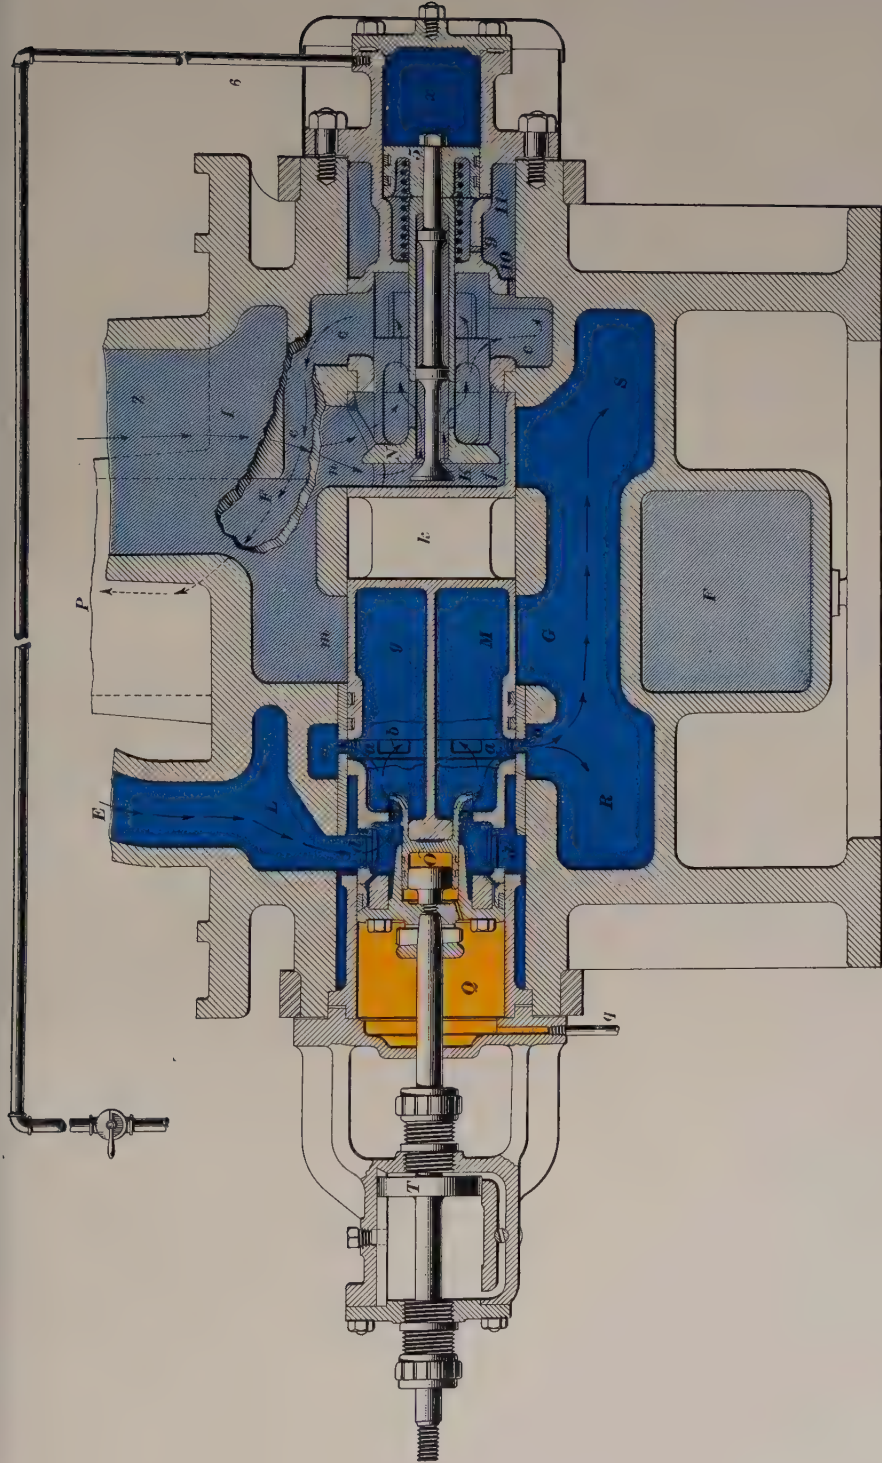

FIG. 24
40. Working Simple.—When the engineer desires to start the locomotive as a simple engine, he first turns the handle of the emergency operating valve to the position marked *simple*, so as to admit pressure into chamber *x*, and then opens the throttle, Fig. 24. The pressure in chamber *x* moves piston 5 and forces open the emergency exhaust valves *K* and *N*, while, by admitting steam into chamber *L*, the intercepting valve is caused to move into the simple position and to close the passages *m* and *n*; hence, the exhaust steam from the high-pressure cylinder passes through the receiver into chamber *I*, and is then obliged to pass through the exhaust valve *N* and the emergency exhaust passage *c*, into the main exhaust passage *F* and the atmosphere, as indicated by the arrows. The walls of chamber *I* are broken away to show how the passage *c* leads into the main exhaust passage *F*. The low-pressure cylinder is supplied with live steam at a reduced pressure through the reducing valve, as indicated by the arrows.
42. Changing From Simple to Compound.—To change the engine from simple to compound, the engineer simply moves the handle of the operating valve to the position marked *compound*. This removes the pressure from chamber *x*, Fig. 24, as will be indicated by steam or air exhausting from the exhaust port of the operating valve. In
44. Working Simple.—In starting on a grade or in starting heavy trains, the engine should be worked simple until the train is moving freely. To start an engine simple, move the handle of the operating valve into the position marked *simple*, drop the reverse lever into the corner, open the cylinder cocks, and then open the throttle. In this way, live steam will be worked in both cylinders (see Fig. 24) until the engineer converts the engine to compound. The engine, when worked simple to start a heavy train, will jerk less and will start the train more smoothly. It should be converted to compound, however, just as soon as possible after the train is moving freely. This is accomplished by
Should the steam-supply pipe *6* to the chamber, Fig. 24, become broken, the intercepting valve can be forced into simple position by removing the head of chamber *x* and blocking the emergency exhaust valve open, in the position shown in Fig. 24. If a cross-compound engine, when given steam, will not start with the high-pressure side on the center, the trouble is usually with the reducing and intercepting valves sticking in compound position.